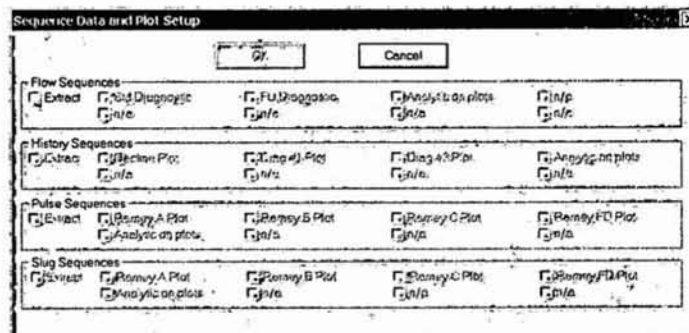

Figure 75. Sequence Data and Plot Setup
- (1) Select **Auto Setup** → **Sequence Plots**.
- (2) A dialog will appear as shown in figure 75: